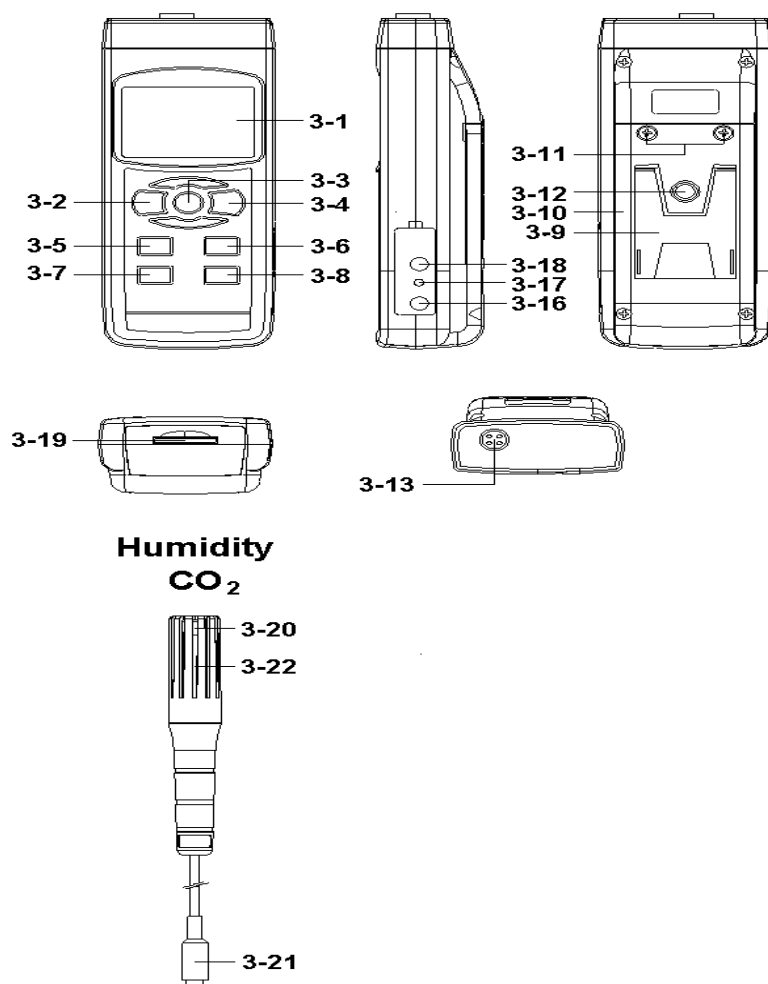

Fig. 1
- 1) Plug in the " Plug of probe " (3-21 Fig. 1) to meter's " Probe Input Socket " (3-13, Fig. 1)
- 2) Power on the meter by pushing the "Power Button"(3-2, Fig. 1) 2 seconds.
- 3) Press and hold the " Function Button " (3-6, Fig. 1) into sequence to select the measuring function :
During the measurement, press the " Hold Button " (3-3, Fig. 1) once will hold the measured value & the LCD will display a " HOLD " symbol.
1) The data record function records the maximum and minimum readings. Press the " REC Button " (3-4, Fig. 1) once to start the Data Record function and there will be a " REC " symbol on the display.
- a) Press the " REC Button " (3-4, Fig. 1) once, the " REC MAX " symbol along with the maximum value will appear on the display.
If intend to delete the maximum value, just press the " Hold Button " (3-3, Fig. 1) once, then the display will show the " REC " symbol only & execute the memory function continuously.
- b) Press the " REC Button " (3-4, Fig. 1) again, the " REC MIN " symbol along with the minimum value will appear on the display.
If intend to delete the minimum value, just press the " Hold Button " (3-3, Fig. 1) once, then the display will show the " REC " symbol only & execute the memory function continuously.
After power ON, the " LCD Backlight " will light automatically. During the measurement, press the " Backlight Button " (3-2, Fig. 1) once will turn OFF the " LCD Backlight ".
Prepare a " SD memory card " (1 GB to 16 GB, optional), insert the SD card into the " SD card socket " (3-19, Fig. 1).
Press the " Logger Button " (3-8, Fig. 1) >2 second , the LCD will show the text " Scan card " , then press the " Logger Button " (3-8, Fig. 1) , the LCD will show text " DATA LOGGER " will flashing, at the same time the measuring data along the time information will be saved into the memory circuit.
During execute the Datalogger function , if press the " Logger Button " (3-8, Fig. 1) once will pause the Datalogger function (stop to save the measuring data into the memory circuit temporally). In the same time the text of " DATA LOGGER " will be no flashing.
If press the " Logger Button " (3-8, Fig. 1) once again will execute the Datalogger again, the bottom text of " DATA LOGGER " will flashing .
During pause the Datalogger, press the "Logger Button Button " (3-8, Fig. 1) continuously at least two seconds, the " DATA LOGGER " indication will be disappeared and finish the Datalogger.
Press the " Logger Button (3-8, Fig. 1) >2 second , the LCD will show the text " DATA LOGGER ", then press the " Logger Button " (3-8, Fig. 1) once, the bottom text " DATA LOGGER " will flashing once and Beeper will sound once, at the same time the measuring data along the time information will be saved into the memory circuit. The lower Display will show the Position (Location) no. and saved into the SD card too.